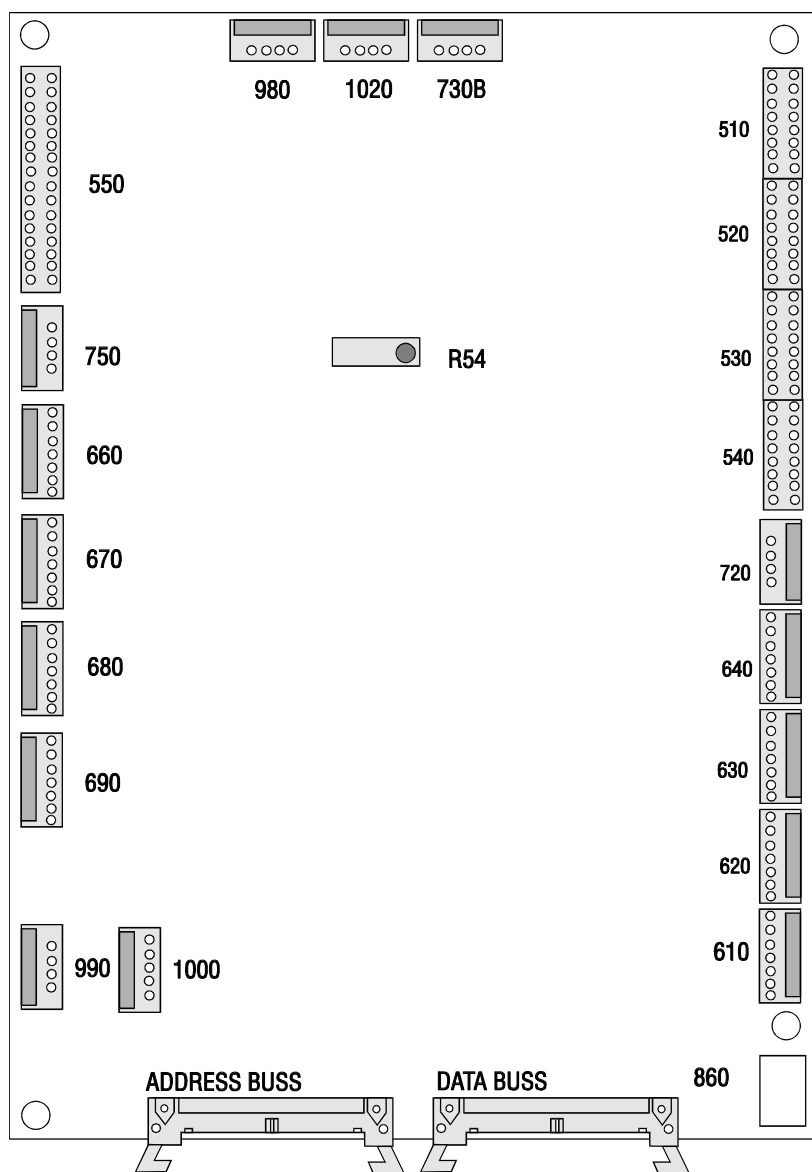

Fig. 3-1 Motor Interface board.
4. Disconnect all leads to the Motor Interface (MOTIF) board. Ensure all cables are properly labeled for reconnecting later. Fig. 3-1 shows all cable numbers and the locations on the MOTIF board.